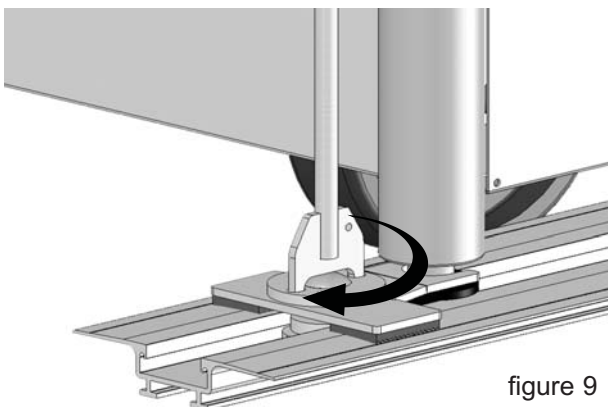

figure 9
4. Turn the Track Lock handle clockwise until the Track Lock assembly is tight and secure in place (figure 9).